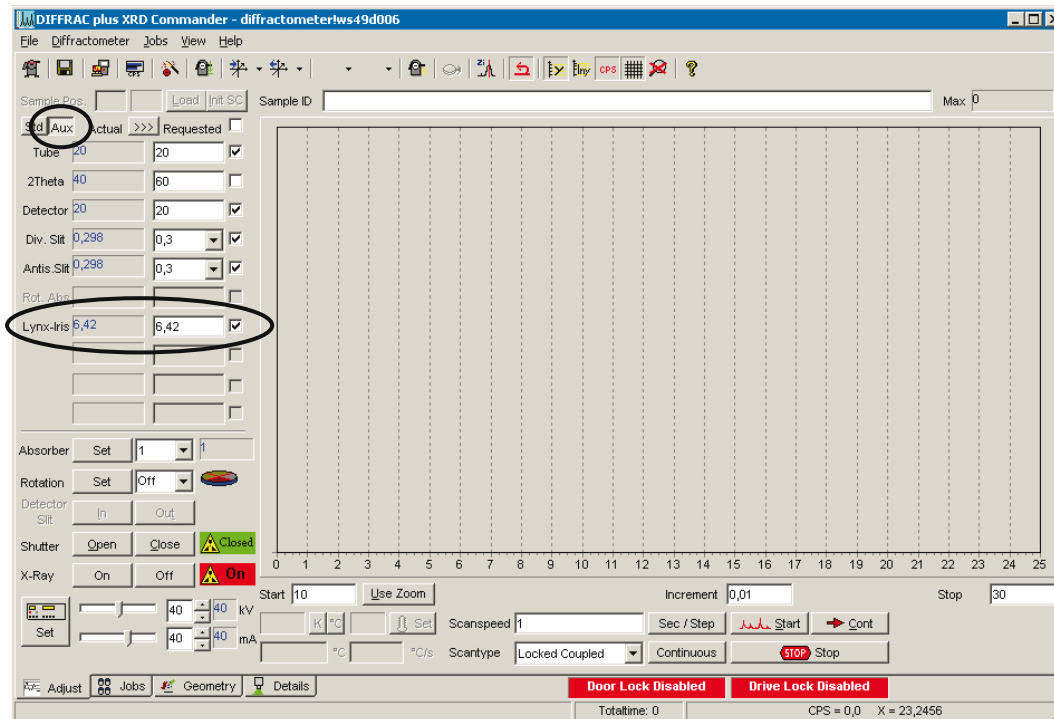

Figure 7.19 XRD Commander>Auxiliary Drives
3. Within the XRD Commander window click on **Aux** to get access to the additionally defined drives (see Figure 7.19).